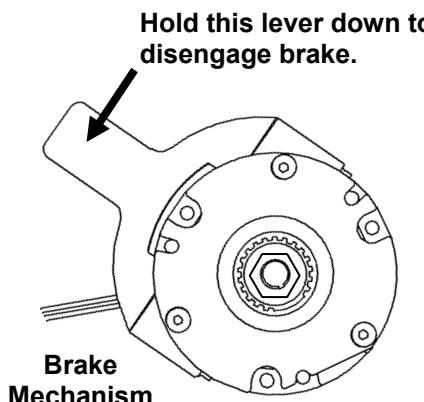

Figure 4.2-13
1. Disengage the brake (see Figure 4.2-13), and manually crank the table to just before top dead center. There should be a gap of approximately $\frac{1}{2}$ inch between the table drive eccentric's white nylon roller and the rear edge of the cam link as viewed from above.